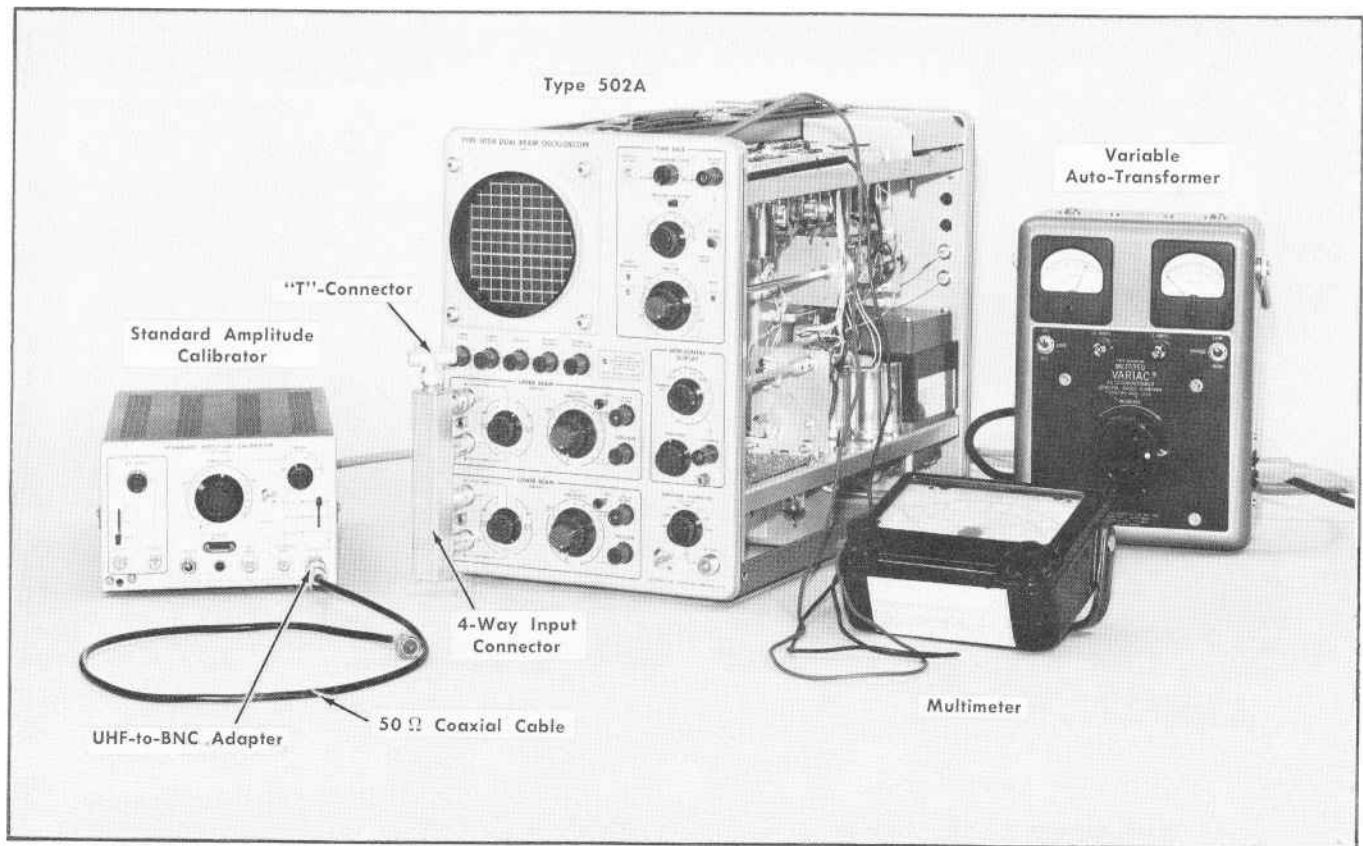

Fig. 6-34. Test equipment setup for trigger adjustments (steps 35 and 36).
a. Set up the equipment as shown in Fig. 6-34. The meter is connected between the center arm of the STABILITY ADJUST potentiometer and ground. Set the meter to the —150 volt range.